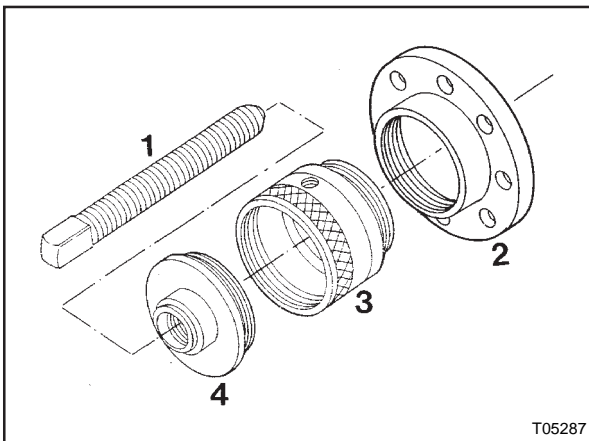

Figure 7 : Tool set to remove hub unit
8. Use the tool set shown in Figure 7 to remove the hub unit.